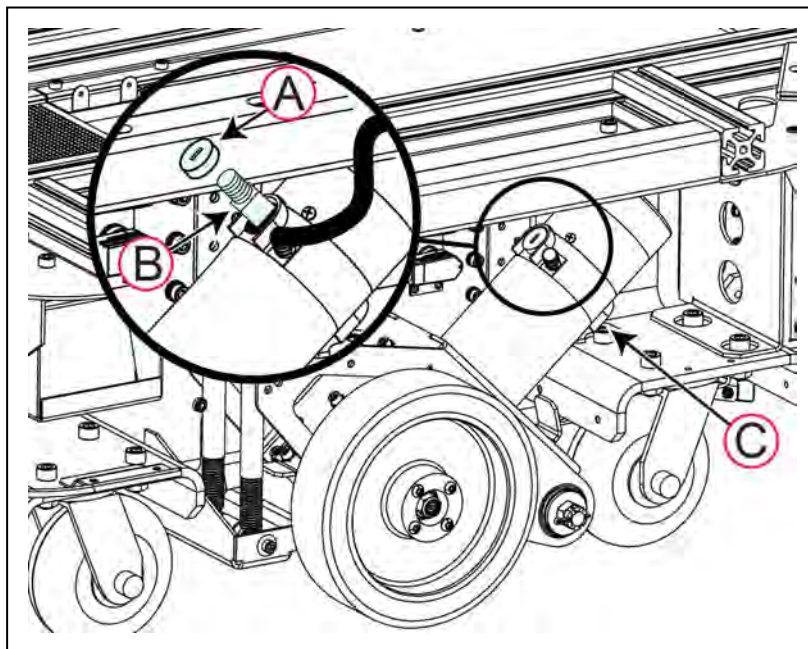

Figure 8-15 Replace the Motor Brushes
4. Use an ¼ inch (7 mm) flat-blade offset screwdriver to remove the brush cover (A).
5. Insert a new replacement brush as shown by (B) in Figure 8-15.
7. Repeat Step 3 through Step 6 for the underside brush (C).